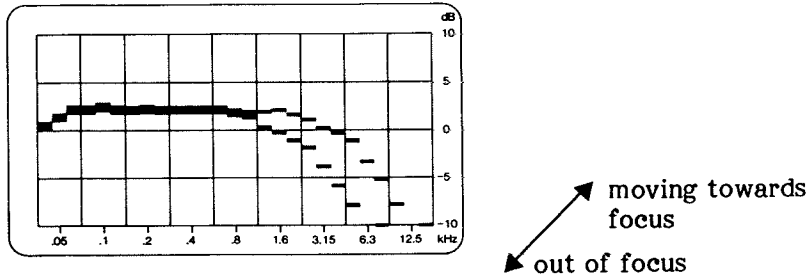
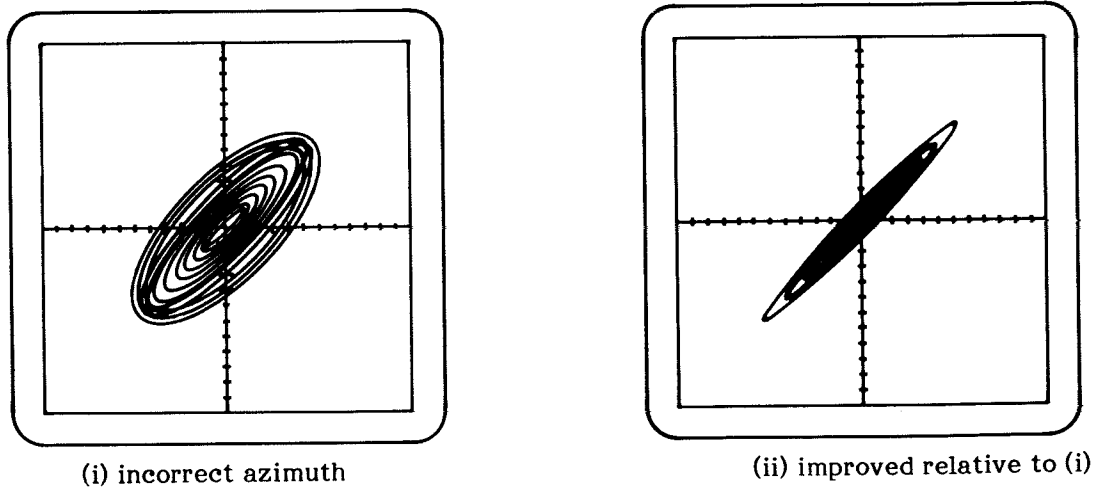

Fig. 2.16
Fig. 2.17
- (h) Thread up and play the pink noise side of Dolby test film Cat. No. 69. With the oscilloscope connected as in 2.9(d), switch the oscilloscope to X/Y mode. With a real-time analyzer alternately connected to the left and right channels (use the test response points on the optical preamplifier), adjust the focus for maximum h.f. on the real-time analyzer (Fig. 2.16) and rotate the slit for best azimuth as seen on the oscilloscope (Fig. 2.17). Check that the X and Y gains of the oscilloscope are identical by applying the same input to each trace in turn, or simultaneously to both inputs. Since the focus and azimuth settings are somewhat interdependent, repeat the adjustments once again to check for optimum settings.